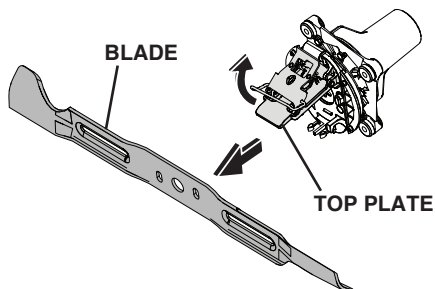

Fig. 31
- Open the top plate and remove blade. (See Fig. 31.)